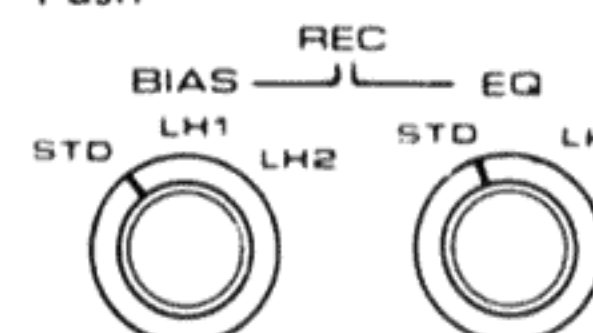

Fig. 27
5. Set the REC BIAS and REC EQ switches in accordance with the type of tape to be used. Refer to Fig. 27. A great variety of normal and "low noise high output" (LH) tapes are now on the market. For details, refer to paragraph "The REC BIAS and REC EQ switches" on the next page.